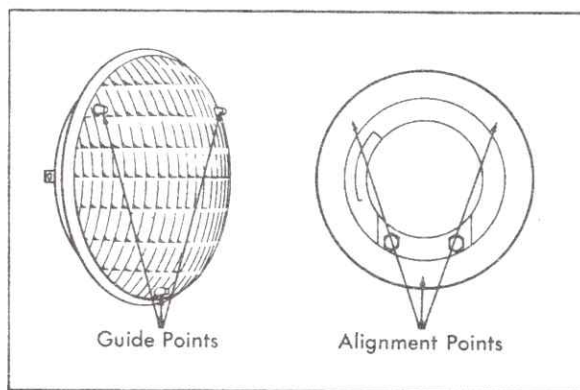

Fig. 12-6 Installing Aimers on Sealed Beams
4. Clean headlight lens. Position aimers on upper headlights on all but 693 styles. On 693 styles, position aimers on outer headlights. Guide points must engage smooth inner ring of aimers at alignment points, Fig. 12-6 and the "sight" openings on each aimers must point toward center of car.